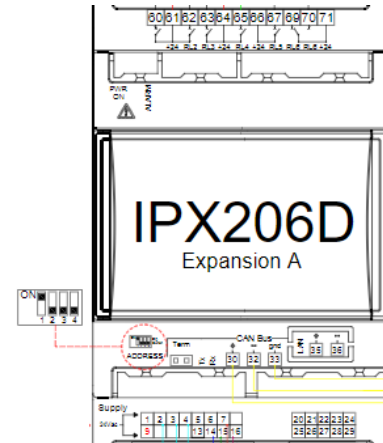

Figure 6. Flō i-Controller Expansion Addressing
Double-check that the Expansion Modules are addressed as 1&3. Verify the addressing and adjust as necessary on the dip switches (location called out in *Figure 6*. This figure is an example of expansion A setup).
**NOTE:** The actual switch may be white but for illustrative purposes, the switch is black in the *Figure 6* below.